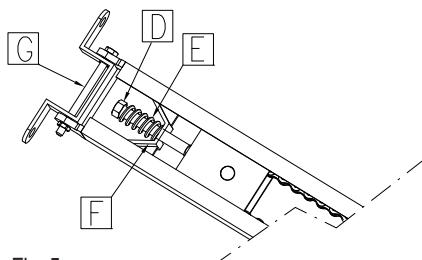

Fig. 5
- Insert spring E and lock by means of relative nut D. Then fit part G with screw and M8 nut (fig. 5)